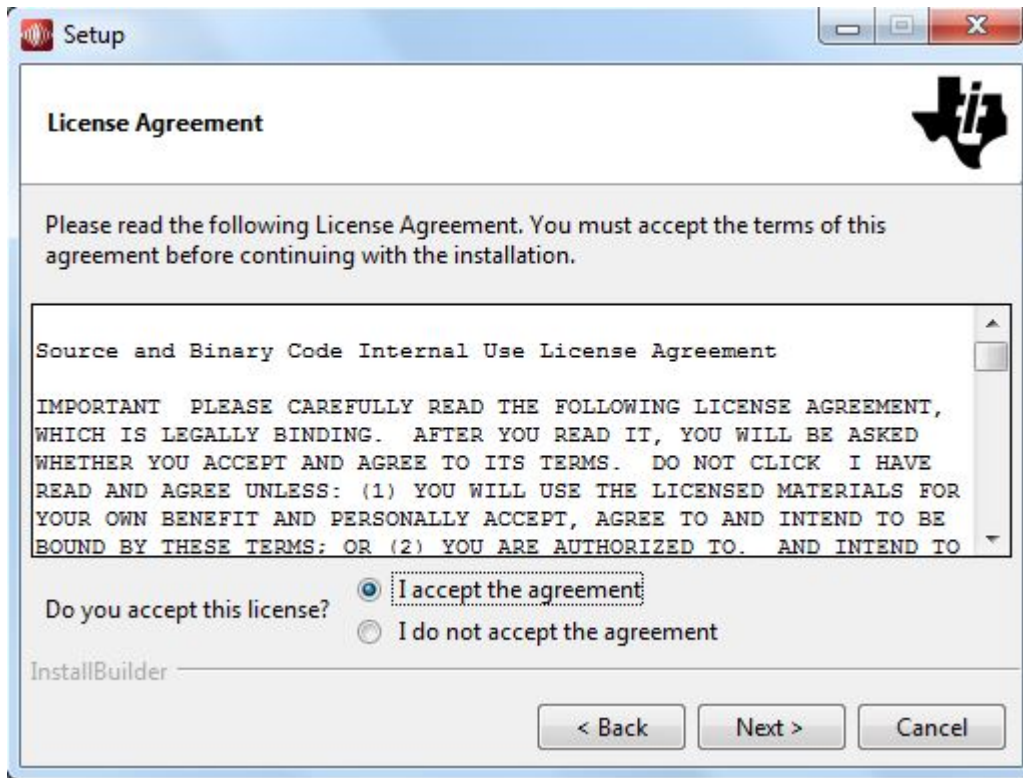

Figure 32. AFE5832 GUI Install (TI License Agreement)
2. Read the Texas Instruments License Agreement and select *I accept the agreement* followed by the *Next* button, as in Figure 32.